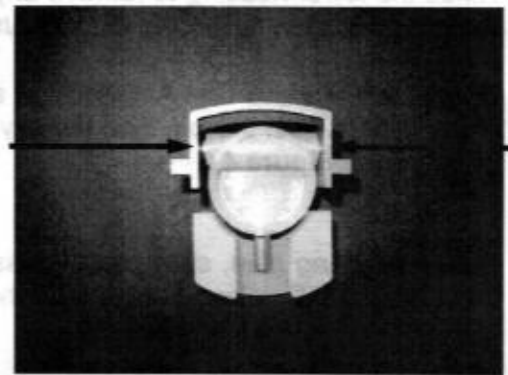

Figure 4
4. Check the 'T' Valve Clip Assembly to assure that the swivel pin does not extend beyond either side of the clip. Adjust the pin if necessary. It is important that the swivel pin is flush with both sides of the clip (see **Figure 4**).
13. Figures 4 and 5 are photographs of the 'T' Valve Clip Assembly and the Clip Elevation Tool. (**Note:** The clip elevation tool is different from the one in the photos) illustrating their correct positions when gluing the 'T' Valve Clip Assembly into the valve base.